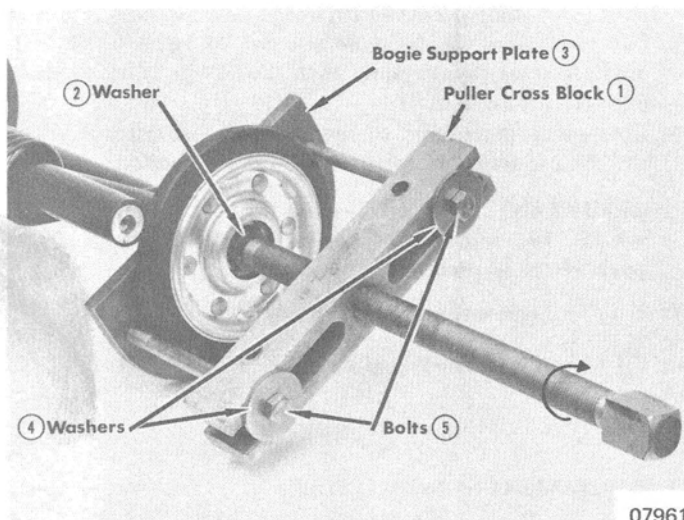
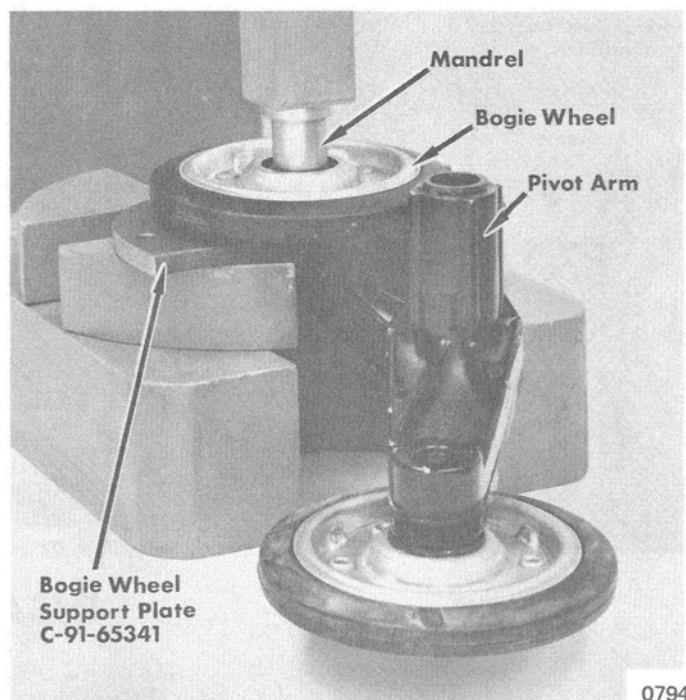

Figure 5. Removing Bogie Wheel
Figure 6. Pressing Bogie Wheel Off Tubing or Arm
5. Remove bogie wheel from tube assembly, as shown in Figure 5. Wheel bearing is staked to tube assembly. Bogie wheel may be removed with a press, as shown in Figure 6.